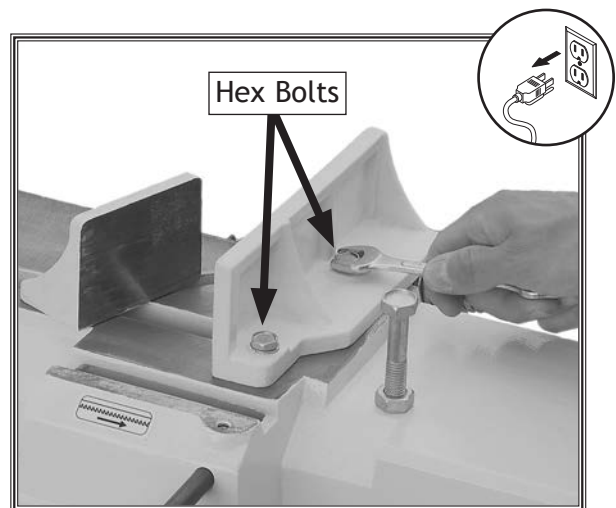

Figure 31. Loosening vise hex bolts.
2. Loosen the hex bolts on the stationary vise jaw, as shown in **Figure 31**.